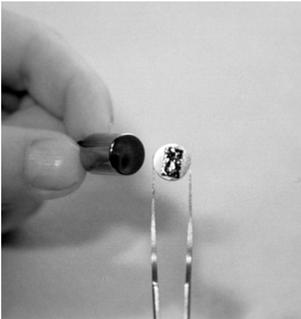

Figure 3-5: Putting the sample on the sample holder
2. Put the prepared sample onto the magnetic end of the sample holder using a pair of tweezers (*Figure 3-5: Putting the sample on the sample holder*).